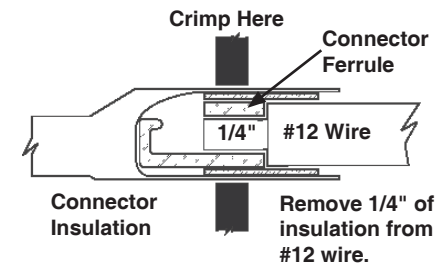
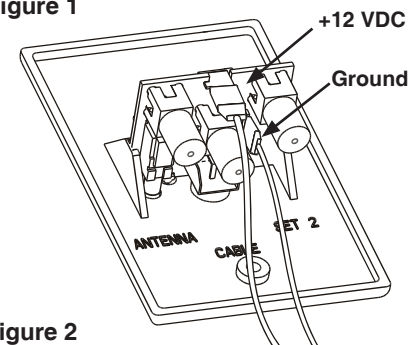
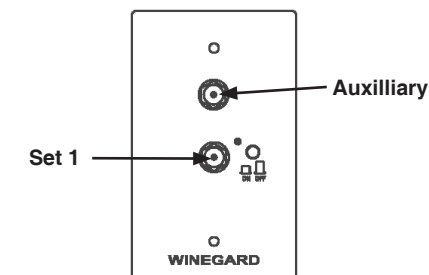

Figure 1
Figure 2
Figure 3
STEP 3. Make +12 VDC connection by running two #12 wires between the wall plate and +12 VDC source. Install terminals on wires from +12 VDC source as shown in Figure 1. Crimp terminals with Craftsman type 4 crimping tool or equivalent. Push wires onto tabs on terminal board as shown in Figure 2. If in doubt as to the polarity of the wires, connect them temporarily to tabs on circuit board and press switch on front of outlet. If light comes on, polarity is correct. See Figure 3.